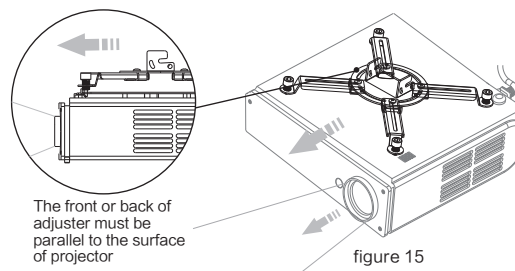

figure 15
5. The front or back of adjuster must be parallel to the surface of projector as figure 15.